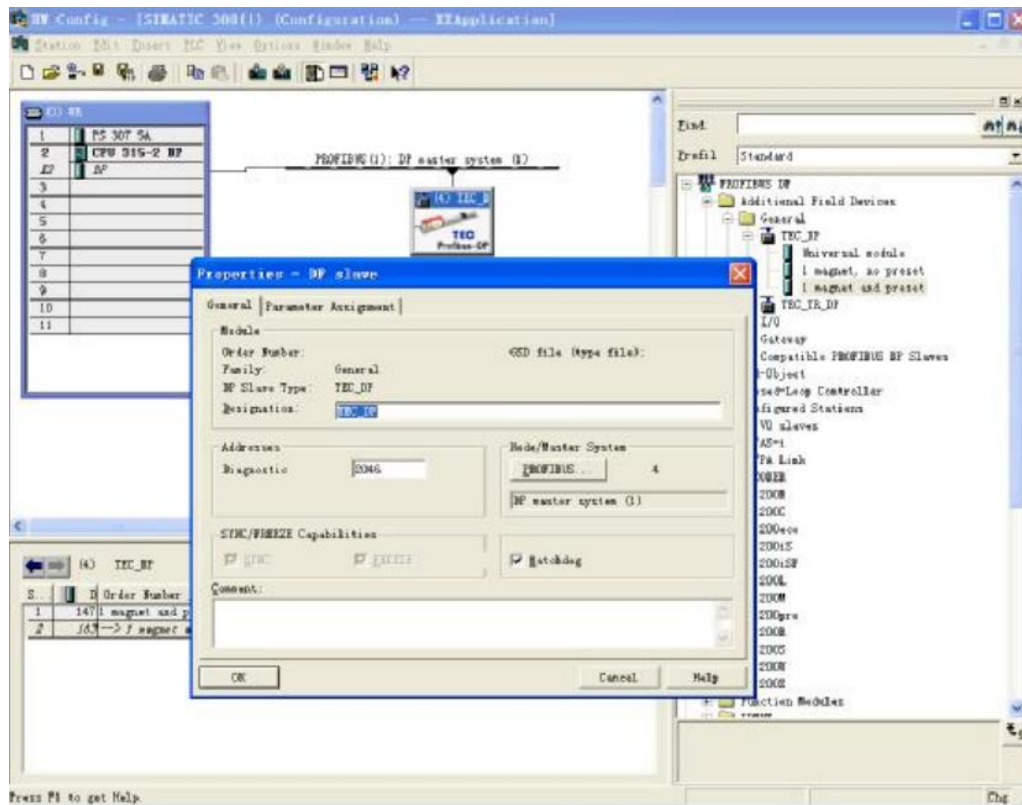

Figure 14
(3) Configure the TEC_DP interface. Double-click the TEC_DP icon on the DP bus to open the device configuration window and select Parameter Assignment, as shown in Figure 14. Through various options, the parameters of the sensor can be set concretely. The detailed description of its parameters will be specified in the following sections.